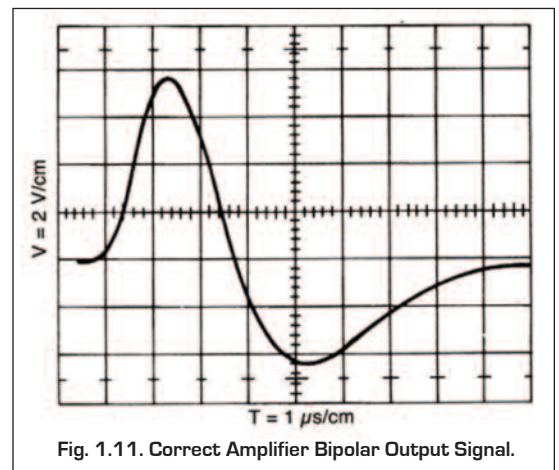

Fig. 1.11. Correct Amplifier Bipolar Output Signal.
6. With all other settings the same, connect the oscilloscope CH1 Input to the 575A BIpolar OUTPUT. The correct output pulse should look like the signal shown in Fig. 1.11. (Re-trigger the oscilloscope if necessary).